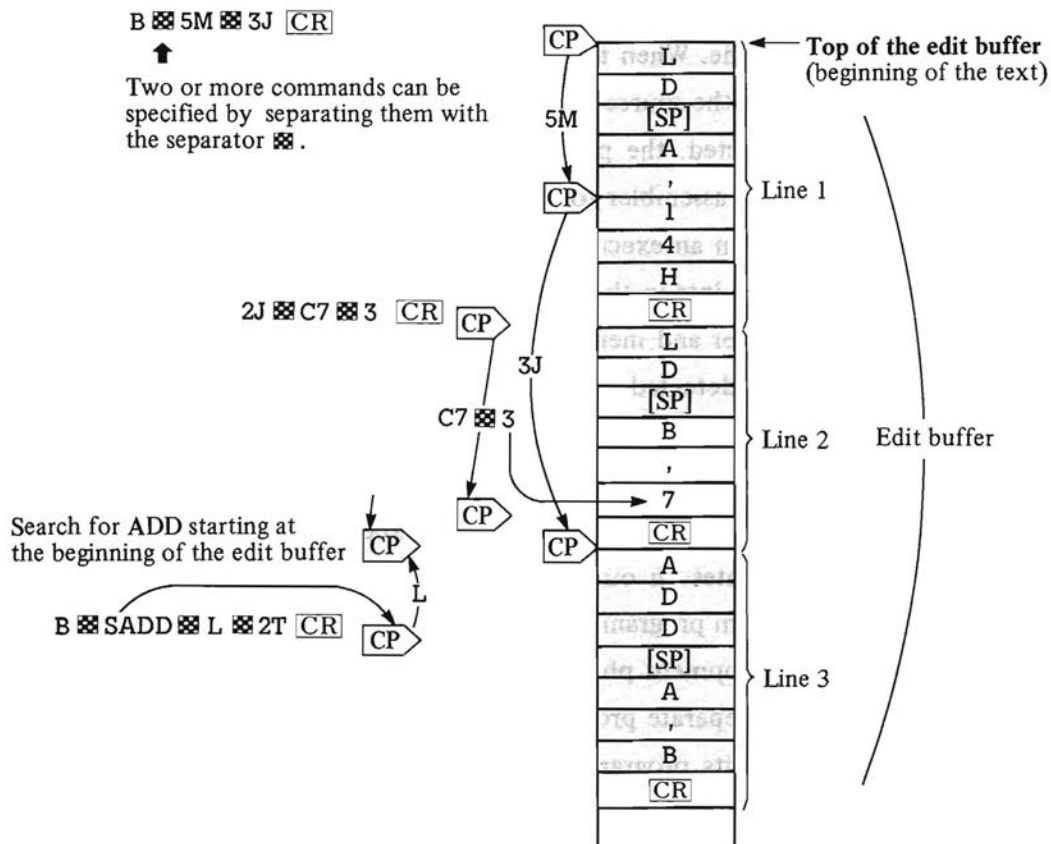

Fig. 2-2 Character pointer movement
The most important concern of the programmer in conjunction with the text editor is the concept of the character pointer (CP) and its usage. During line-base editing, the CP is situated not on a line but between two consecutive lines, as shown in Figure 2-2. Therefore, the location to/from which a line is to be inserted/deleted can uniquely identified. If the CP was located somewhere on a line, two locations would be possible; that is, before and after the CP. The J and L in CP move commands are representative commands which use this interline pointer concept.